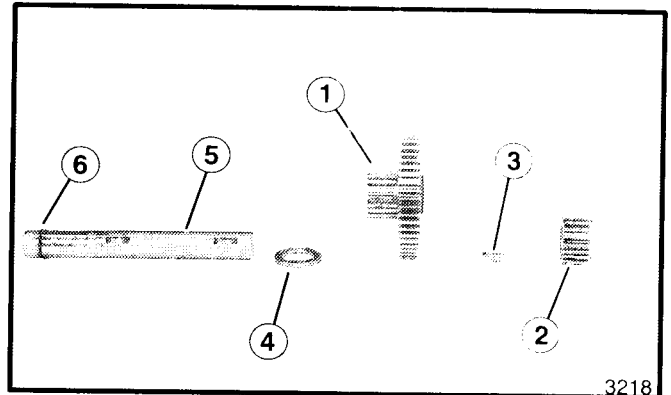

Figure 35. Input Shaft
8. Remove gears, key, and spacer from input shaft (see figure 35).